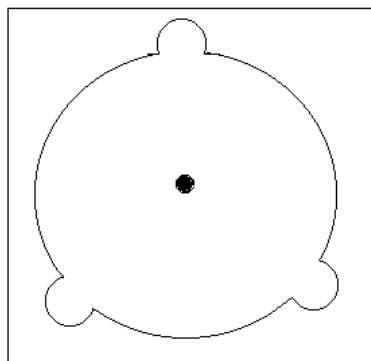

Figure 9
- 1) It has the drill map in embedded bracket, tip the black parts of double paper, the central of drill map have a red spot, which is central spot (reference to Figure 9)